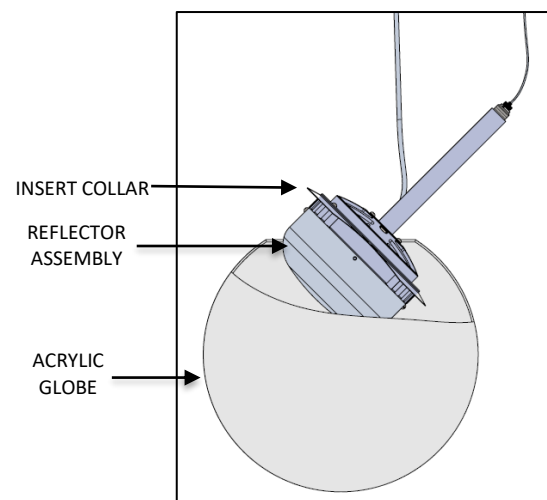

FIG. 37 – ACRYLIC GLOBE INSTALLATION
29. Tilt and Slide the REFLECTOR ASSEMBLY through the ACRYLIC GLOBE as shown in FIG. 37.